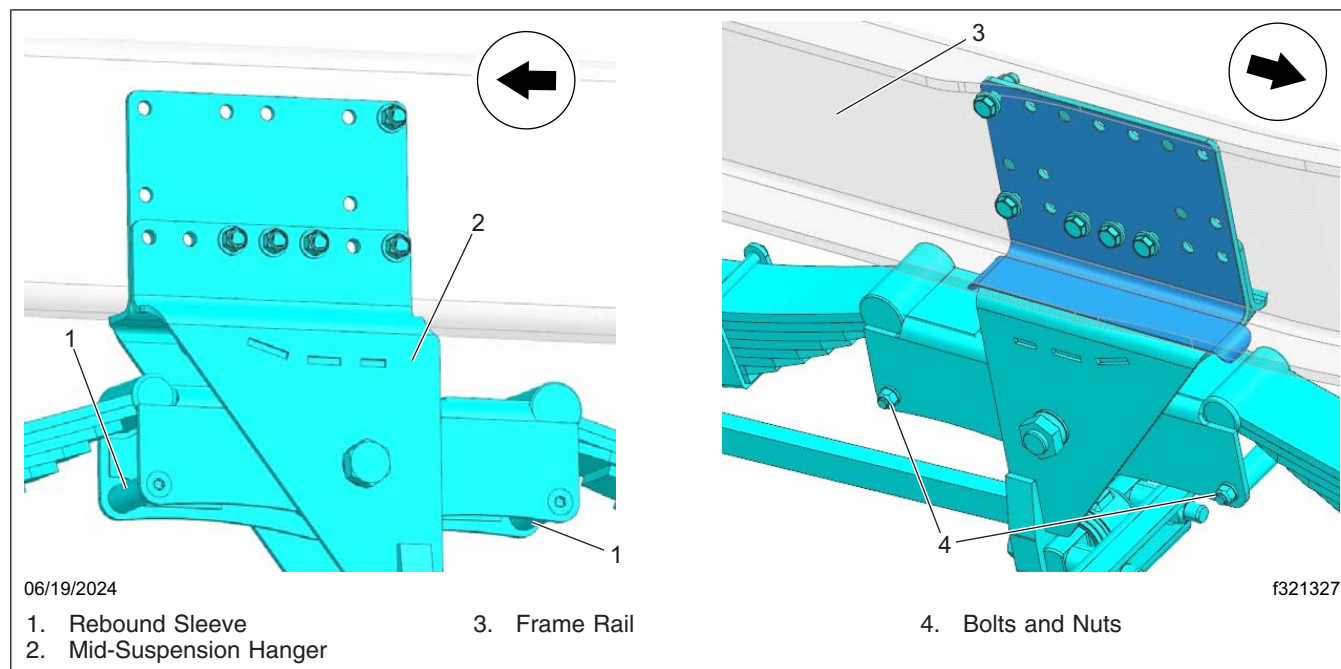

Fig. 17, Rebound Sleeve Bolt and Nut
8. Re-use the sleeve, and replace the nuts & bolts on the mid-suspension hanger and tighten 76 lbf-ft (103 N·m). See Fig. 17.